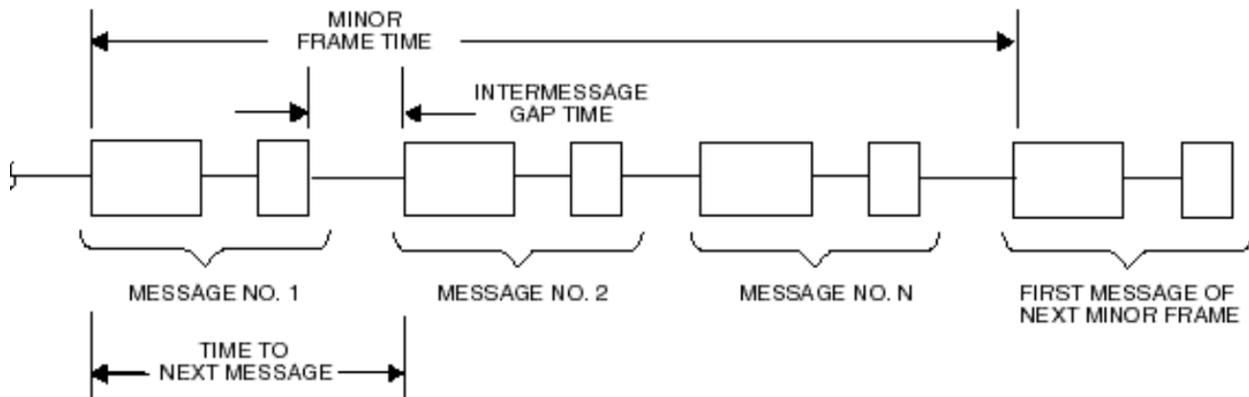
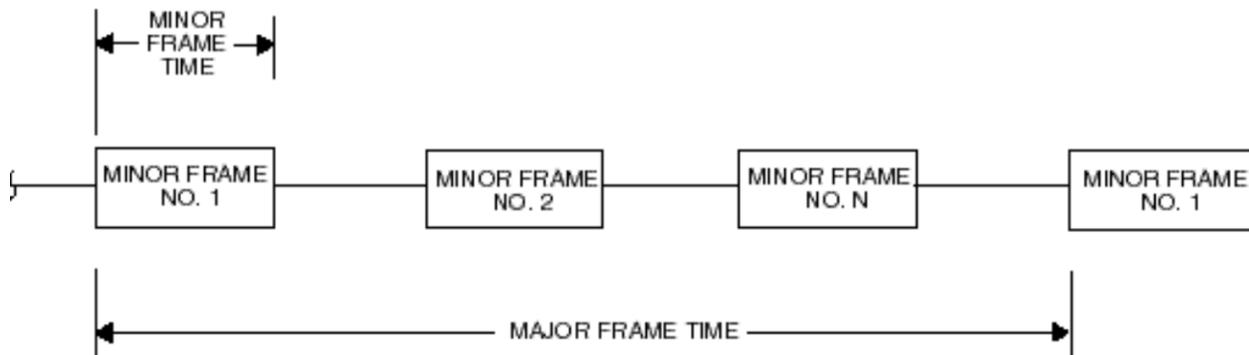

Figure 14. Intermessage Gap Time, Minor Frame Time
Figure 15. Minor and Major Frames
Figure 14 and Figure 15 illustrate the concepts of minor and major BC frames. A minor frame has a fixed time duration (e.g., 10 ms or 20 ms), while a major frame is comprised of multiple minor frames. Depending on the periodicity of individual messages, they will either be processed in a single minor frame within the major frame, or in multiple minor frames within the major frame.
MIL-STD-1553B defines inter-message gap time as the time from the mid-parity bit crossing of the last word of one message to the time of the mid-sync crossing of the command word of the subsequent message. As shown in Figure 14, inter-message gap time may be controlled by means of the Enhanced Mini-ACE BC's Time-to-Next Message parameter in the BC Control/Status block.
- 1) As illustrated in Figure 14 and Figure 15, the frame timer may be used for minor frame control. In general, minor frames consist of one or more messages (although "blank" minor frames containing no messages are also possible). A major BC frame consists of one or more minor frames. After the last minor frame is processed, the major frame completes and the first minor frame within the major frame is repeated.